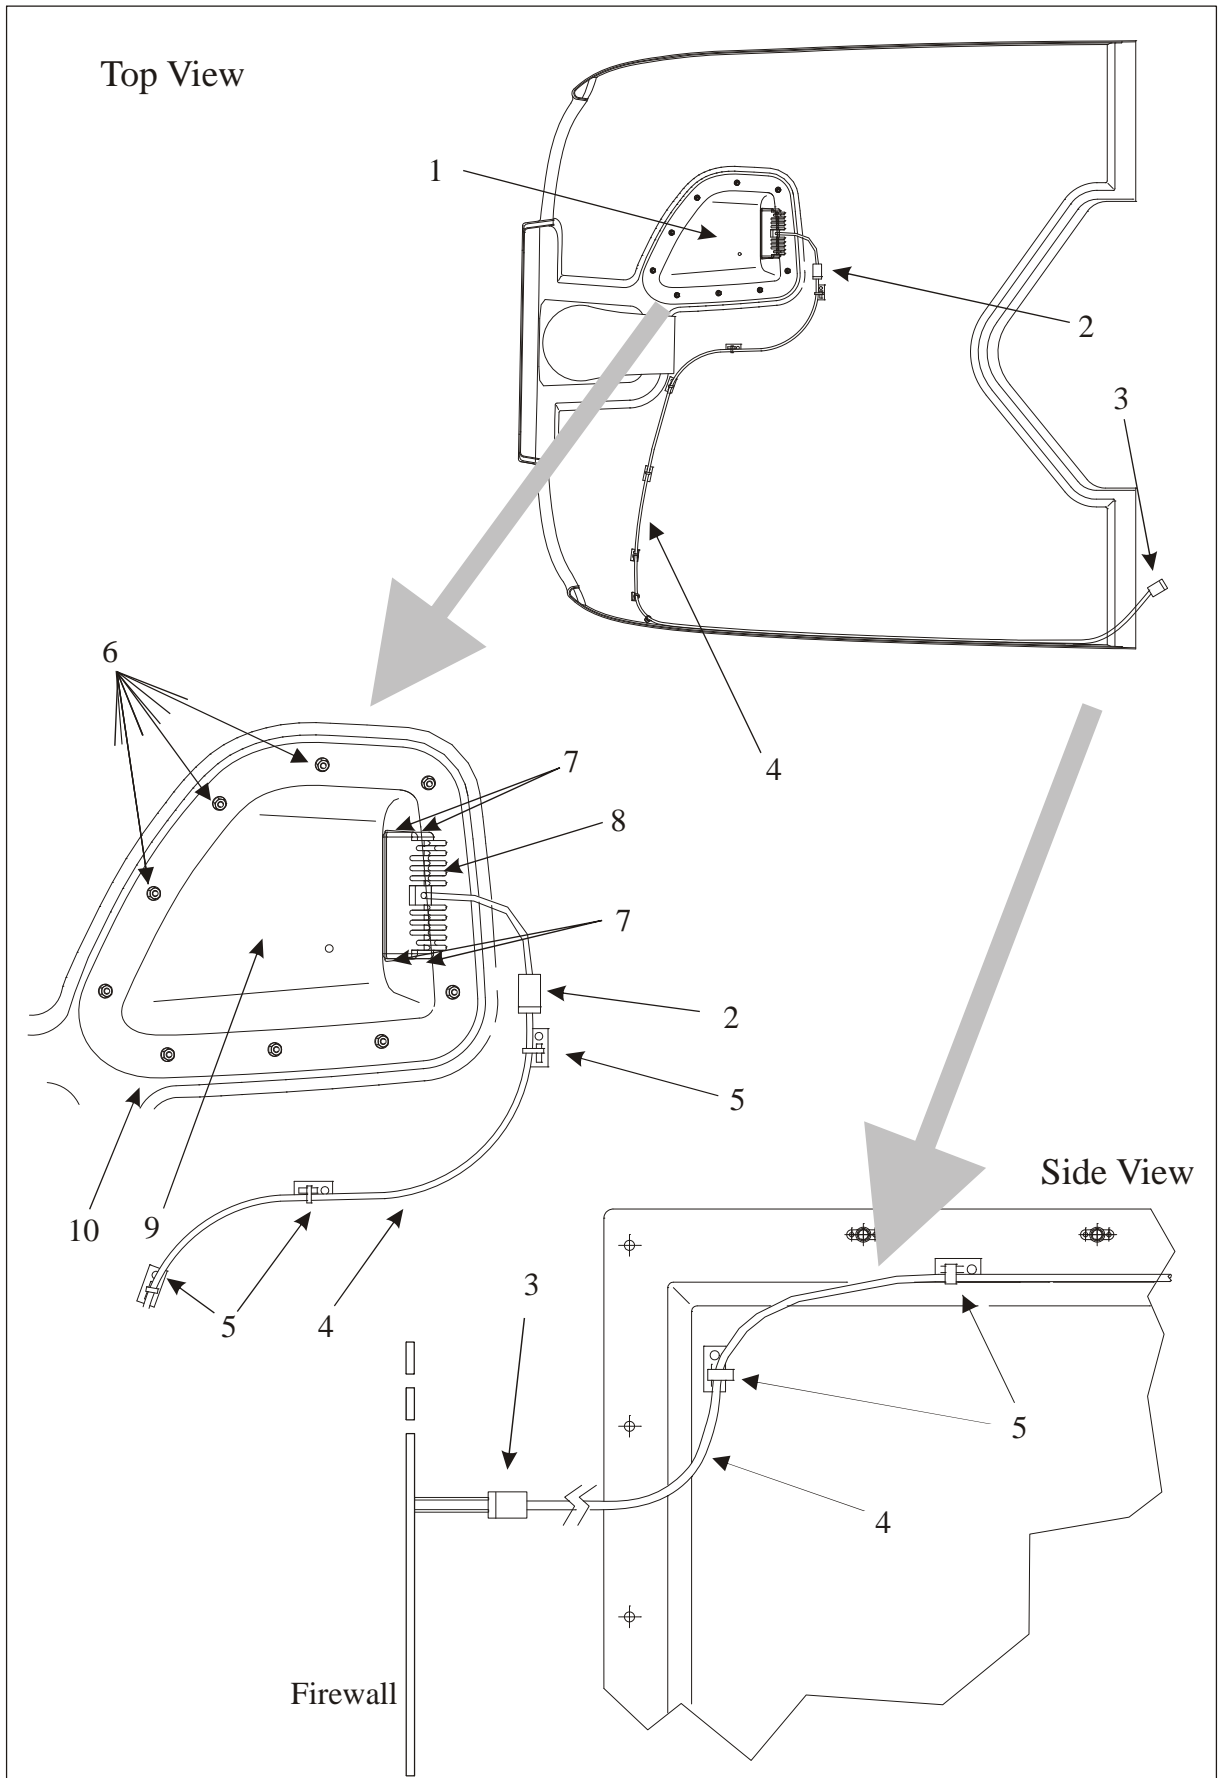

Figure 2
Refer to figure 2.
- 3 Disconnect the plug (2, Figure 2) from the head lamp (8).
- 4 Remove the attachment bolts (6) and remove the hood (9) and the glass (10) which is located under the hood.
- 2 Remove the attachment bolts (7, Figure 2).
- 3 Remove the head lamp (8) from the hood (9).